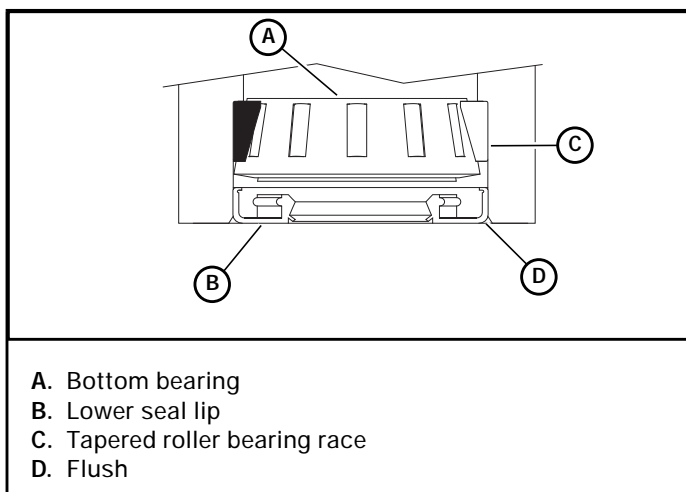

Figure 4-14
9. Install the bottom bearing and lower seal. Make sure that the lower seal lip is facing out and driven flush with the caster pocket. Figure 4-14
11. Install the caster fork assembly, taking care not to damage the lower seal lip. Figure 4-14